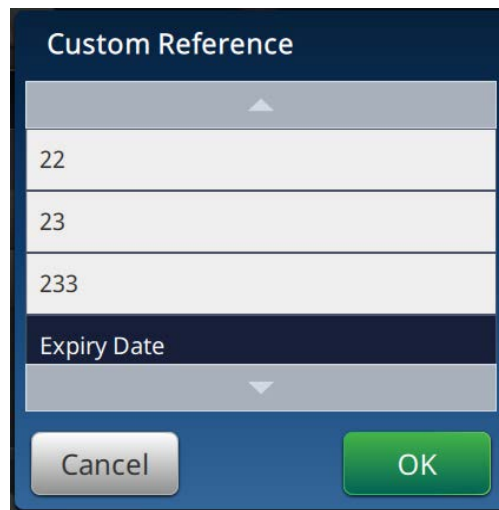

Figure 6-12: Custom Reference List
8. Select Expiry Date from the Custom Reference list as shown in Figure 6-12.
14. Select Expiry Date from the Custom Field Reference list as shown in Figure 6-12 on page 6-16.